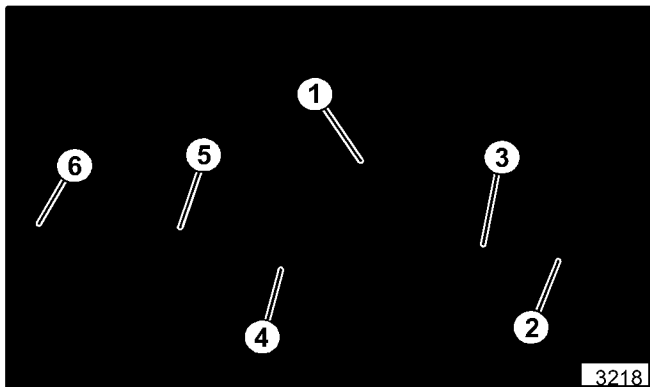

Figure 34. Input Shaft
7. Remove gears, key, and spacer from input shaft (see figure 34).